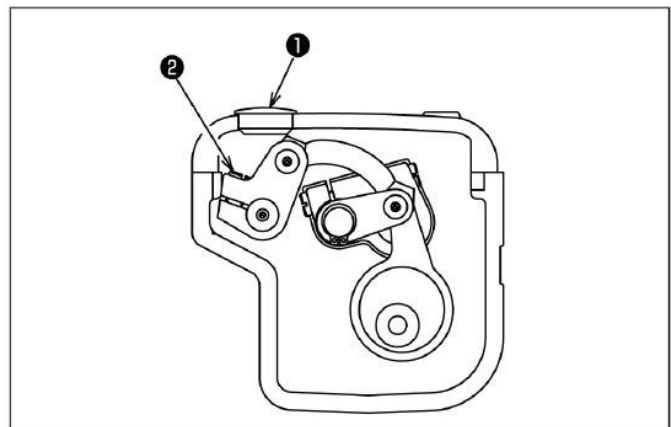

Fig. 21
The vertical movement amount of the walking foot and that of the presser foot are equal as standard. It is possible to slightly reduce vertical movement amount of the presser foot according to the product. If it is needed to increase the vertical movement amount of the walking foot and decrease that of the presser foot. Remove rubber plug (1) of the top cover. Turn handwheel until the presser foot goes up from the throat plate and stop there. Loosen walking bar adjusting lever clamping screw (2). Since the presser foot comes down to the surface of the throat plate by the spring force, re-tighten walking bar adjusting lever clamping screw (2) at that position. See fig.21.